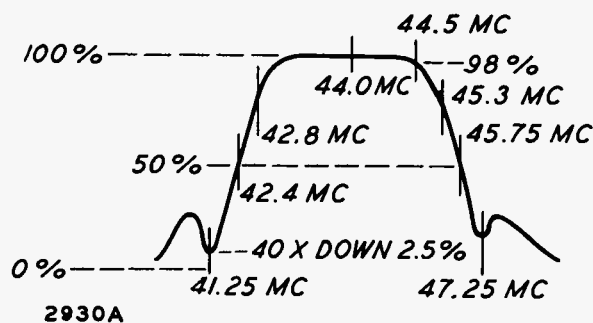

Fig. 8—Overall Response Curve
C. After these adjustments have been made recheck the peak to peak output on the oscilloscope. If the shape of the curve is not as shown in figure 8, it will be necessary to retouch the adjustments. A small fraction of a turn is all that is necessary if the strip is operating correctly. The position of the 44.5 Mc marker is critical (98%). The 44.0 Mc transformer (3rd I-F) controls the symmetry of the top. The 45.3 Mc transformer (2nd I-F) controls the height of the 45.75 Mc marker. The 42.8 Mc transformer (1st I-F) controls the height of the 42.4 Mc marker. This adjustment will very seldom need retouching.